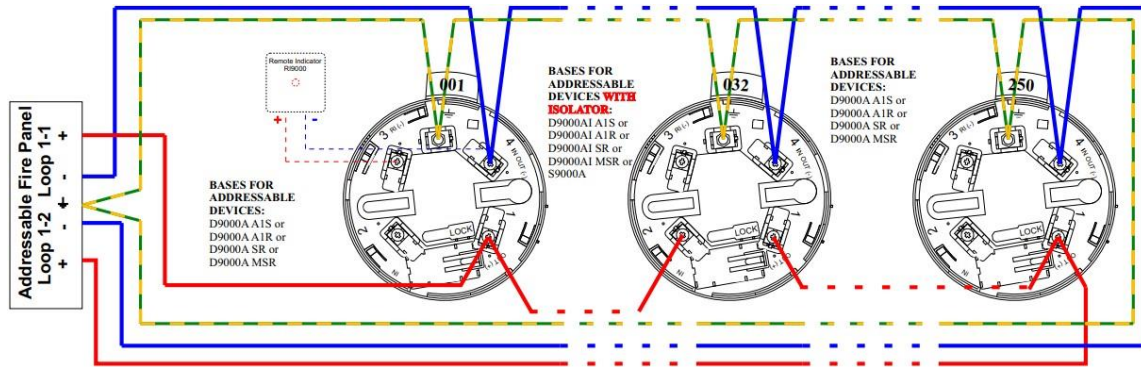

Fig.2
- connect the electrical cables according to the attached diagram (Fig. 2);